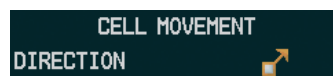

Figure 6-21 Cell Movement Legend
- 1) Press the **MAP** Softkey (for the PFD Inset Map, press the **INSET** Softkey). This step is not necessary on the Weather Data Link (XM) Page.
- 2) Press the **NEXRAD** Softkey (**CEL MOV** Softkey on the Weather Data Link (XM) Page). For Cell Movement to be displayed on maps other than the Weather Data Link (XM) Page, Cell Movement must be enabled in the Navigation Map Setup Menu (see "Setting up and customizing weather data for the Navigation Map Page" procedure).
To display the Cell Movement legend on the Weather Data Link (XM) Page, (Figure 6-21), press the **LEGEND** Softkey when Cell Movement is selected for display.